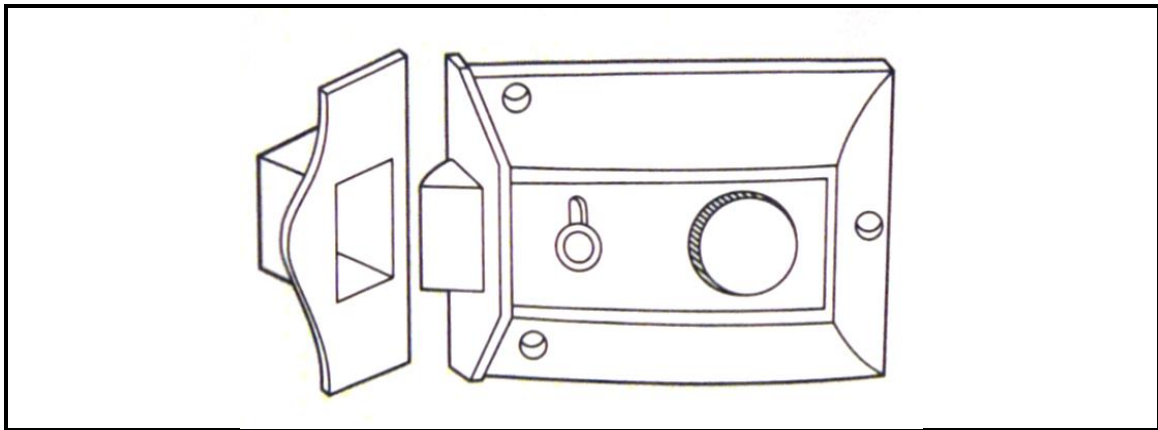

FIGURE 5.1
- 5.1 FIGURE 5.1 shows a sketch of a lock. Study the sketch and answer the questions that follow.